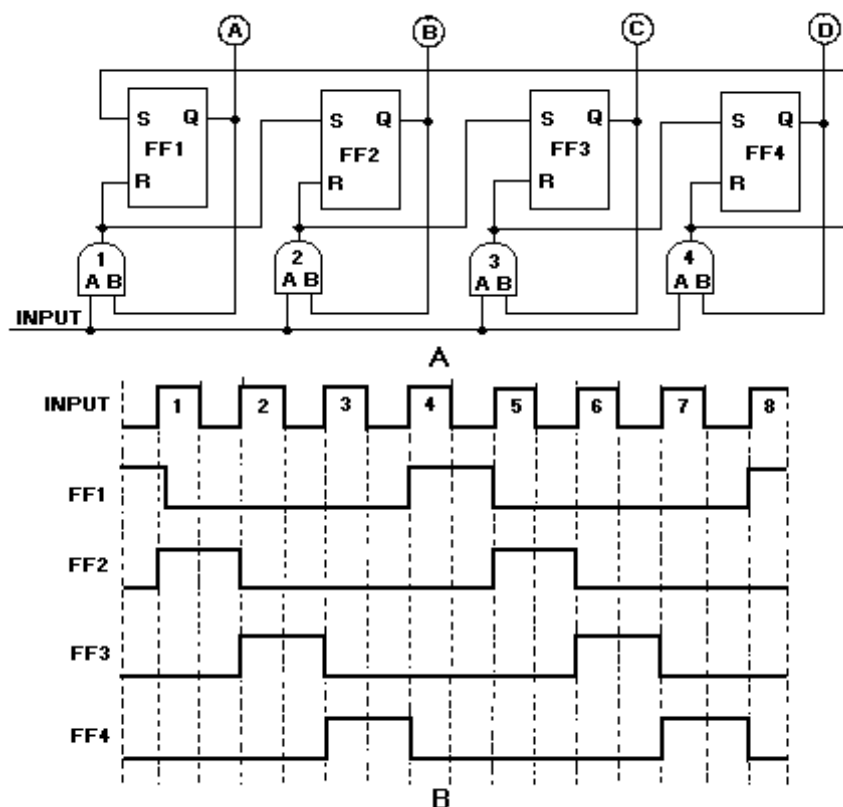

Figure 3-26. —Ring counter: A. Logic diagram; B. Timing diagram.
Figure 3-26, view A, shows a typical four-stage ring counter. This particular counter is composed of R-S FFs. J-K FFs may be used as well. Notice that the output of each AND gate is input to the R, or reset side, of the nearest FF and to the S, or set side, of the next FF. The Q output of each FF is applied to the B input of the AND gate that is connected to its own R input.
Now, let's look at the circuit operation and observe the signal flow as shown in figure 3-26, view B.
*Q45. In figure 3-26, view A, which AND gate causes FF3 to set?*